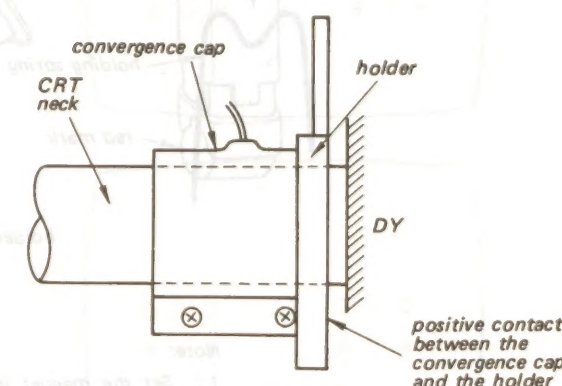
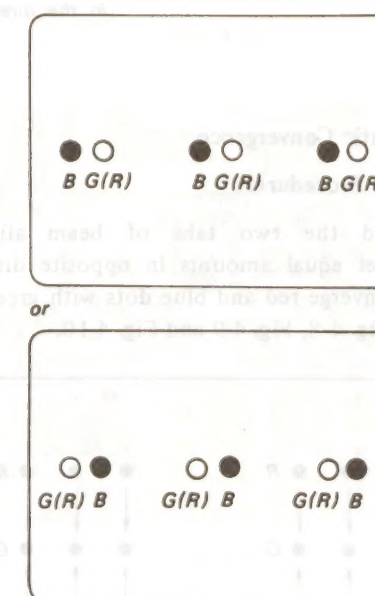
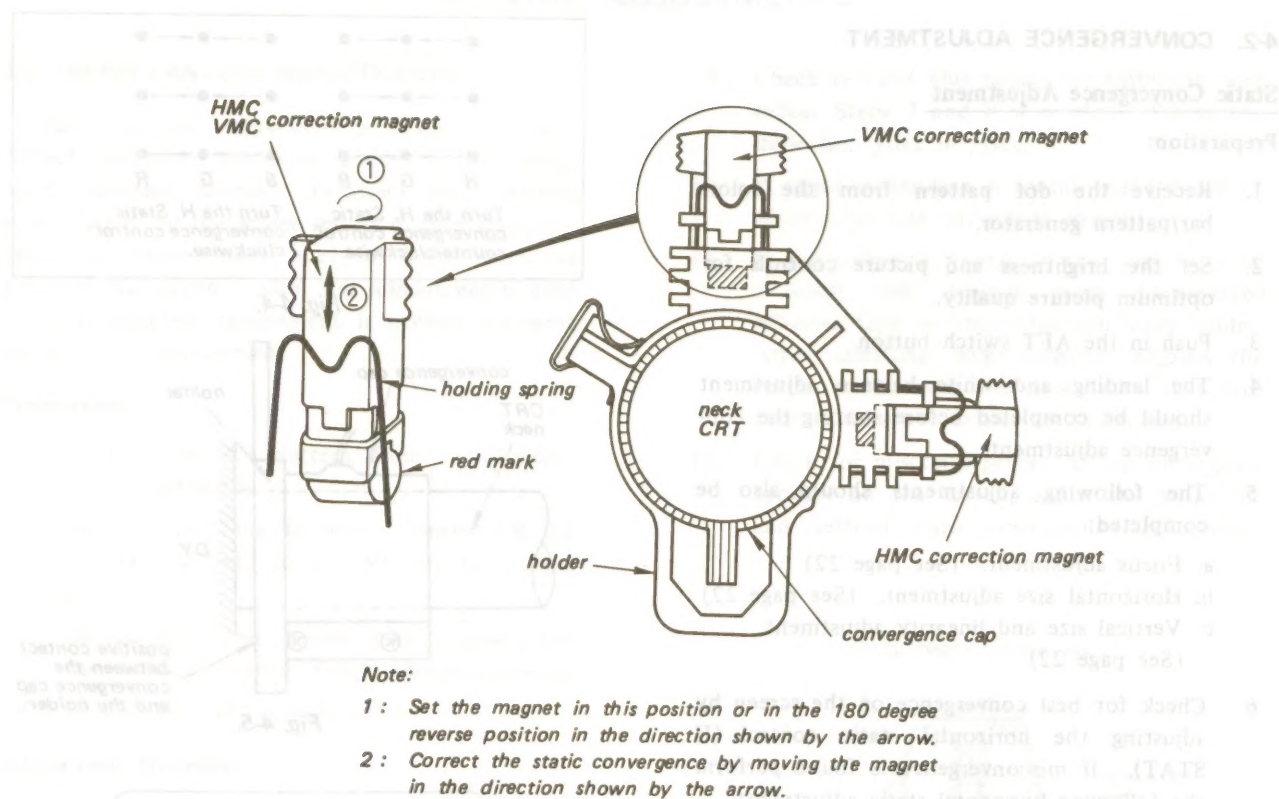

Fig. 4-5.
Fig. 4-6.
Fig. 4-7.
2. If the red and blue dots do not converge with the green dots at center screen install and adjust the horizontal magnetic convergence magnet (HMC) as necessary. See Fig. 4-5, Fig. 4-6 and Fig. 4-7.